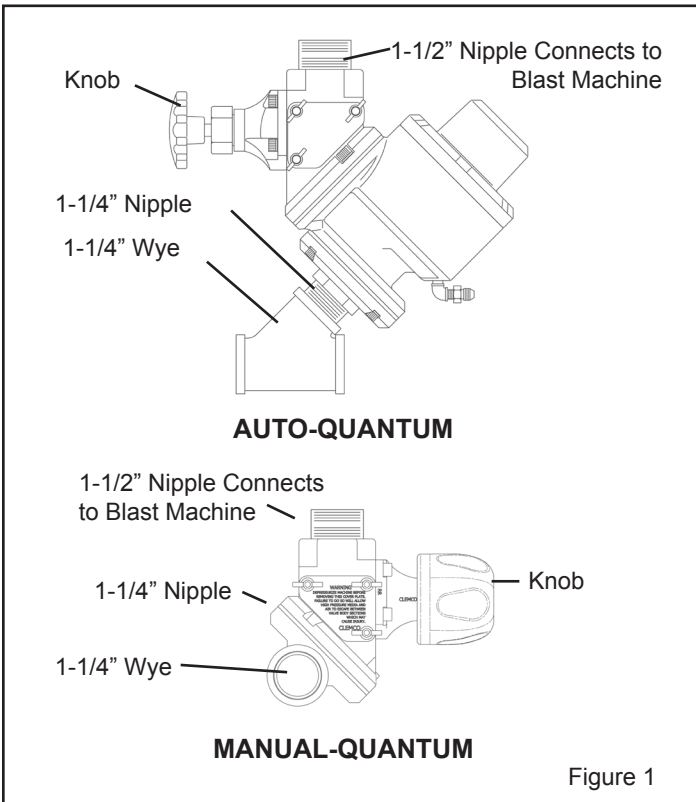

Figure 1
**2.4** Install the 1-1/4" nipple and wye to the metering valve as shown in Figure 1. NOTE: A 1-1/2" wye is available for 1-1/2" piping. Refer to Page 10, Figure 10 and Page 11, Figure 11.